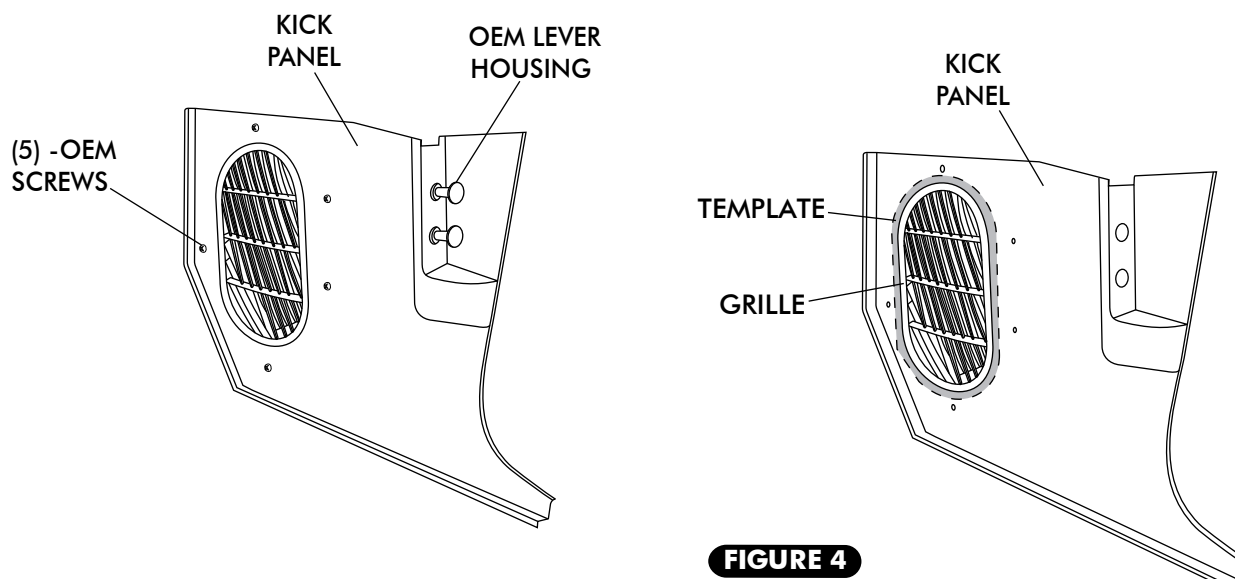

FIGURE 4
- ☐ REMOVE KICK PANEL BY REMOVING THE (5) OEM SCREWS. DISCONNECT THE FRESH AIR DOOR FROM THE LEVER HOUSING. SEE FIGURE 4